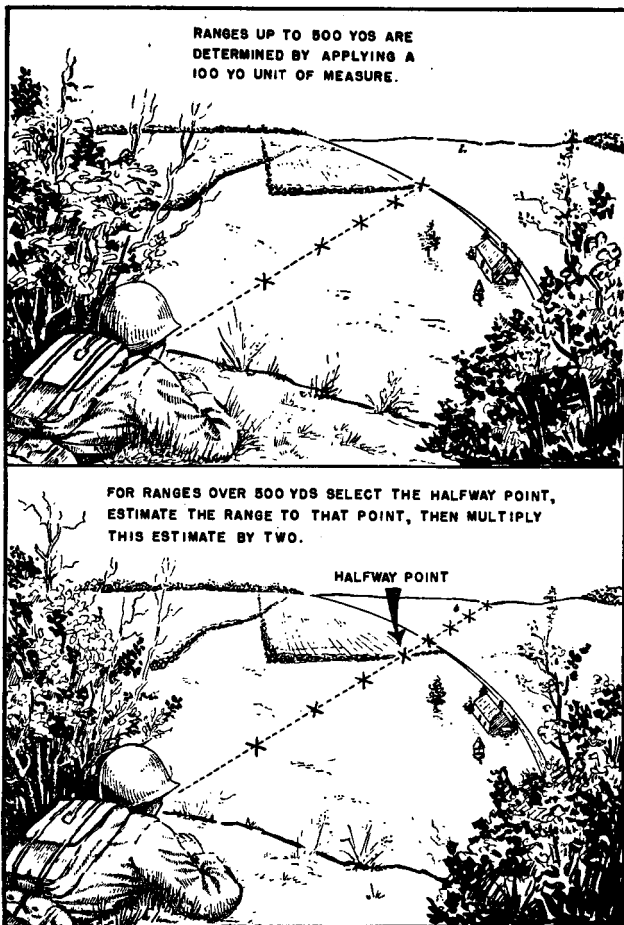

Figure 104. Applying the 100-yard unit of measure in estimating ranges by eye.
- (1) You can picture in your mind short units of measure such as an inch, a foot, or a yard. But can you picture 100 yards? Think of the distance from goal to goal on a football field (100 yards). Also think of the distances on the 100-, 200-, and 300-yard rifle ranges. With these mental yardsticks, try to estimate distances on your drill field, on city streets, or across open country. When you have made your estimate, check yourself by stepping off the distance to the estimated point—120 normal steps is about 100 yards. This is a good game you can play alone while you are hiking. With practice you will soon learn to estimate 100 yards quite accurately (fig. 104).
- (2) After you learn to estimate 100 yards accurately, apply your mental yardstick to 200, 300, and then to 500 yards. Dis-